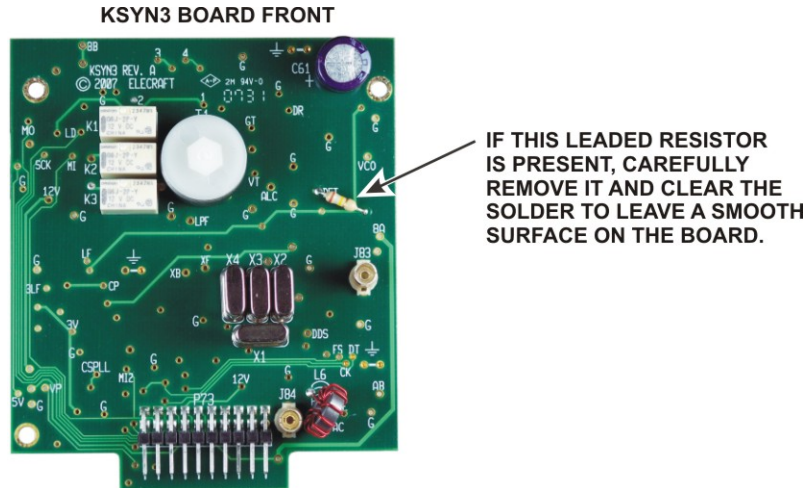

Figure 3. Removing the 180K Ohm Leaded Resistor.
- Check the front of the KSYN3 board for the leaded 180K (first three colors: brown, gray, yellow) resistor shown in Figure 3. Not all KSYN3 boards have this resistor. If present, de-solder and remove it. The metal stiffener will attach to the front of the pc board covering this area with a thin layer of tape for insulation.